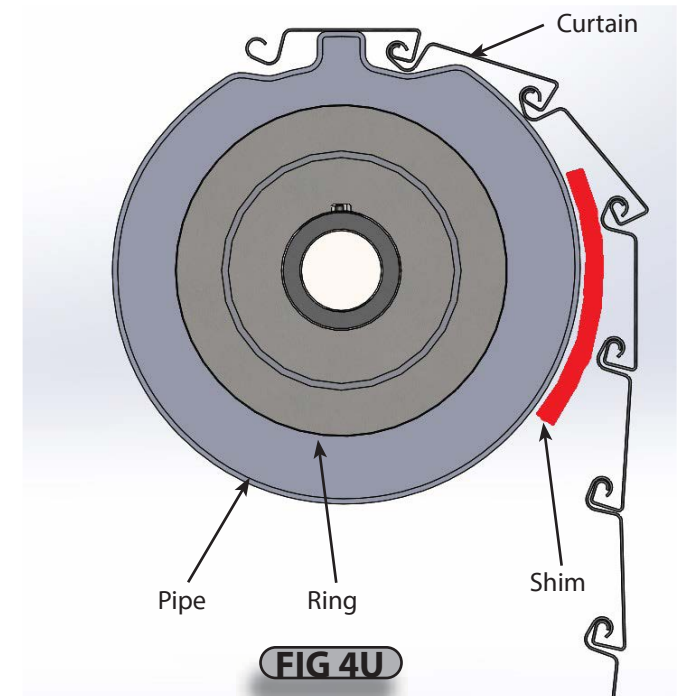

FIG 4U
- Use a 1/8" x 6" x 6" thick piece of material and increase thickness or pieces depending on the result acquired, as shown in **FIG 4U**.